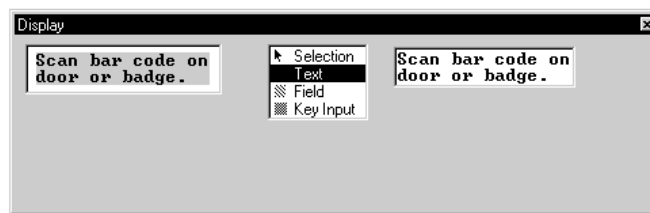

Figure 4-76 Instruct4 Message Entered
49. Press <Enter> to accept the text entry. The entered text appears in the display area at the left of the **Display** window (Figure 4-76).